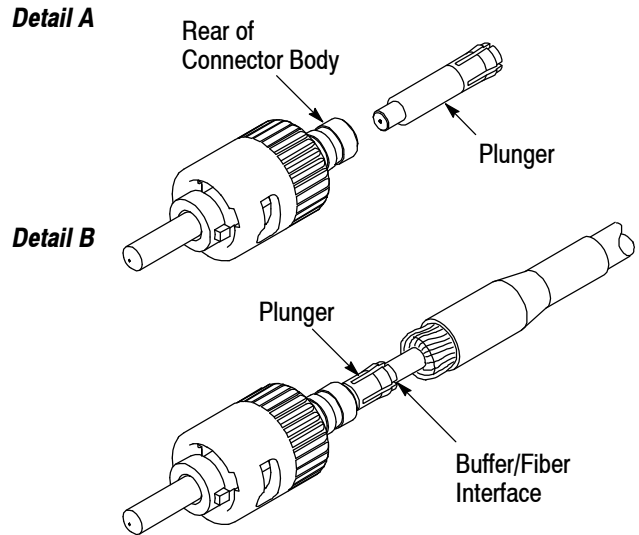

Figure 8
2. Insert the plunger into the rear of the connector body until it stops. See Figure 8, Detail A.
3. Feed the prepared fiber (jacketed or unjacketed) through the rear of the plunger (and connector body) until it stops. To insert the fiber easily, hold the fiber at the buffer/fiber interface, and rotate the connector slowly while inserting the fiber. See Figure 8, Detail B.